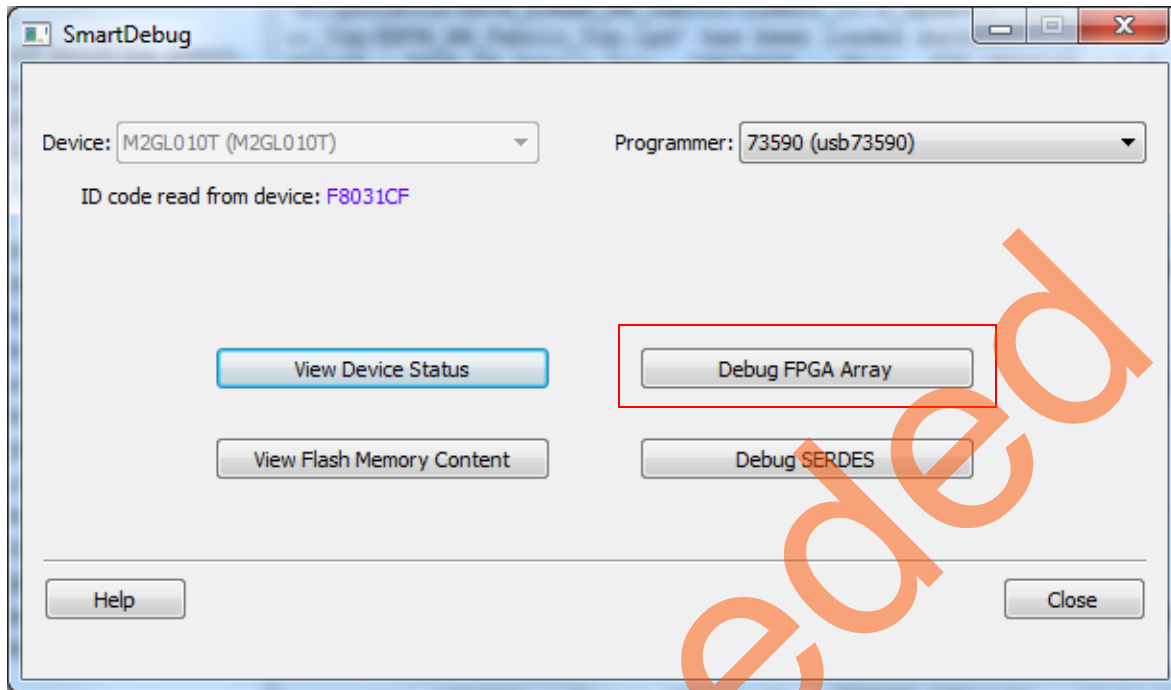
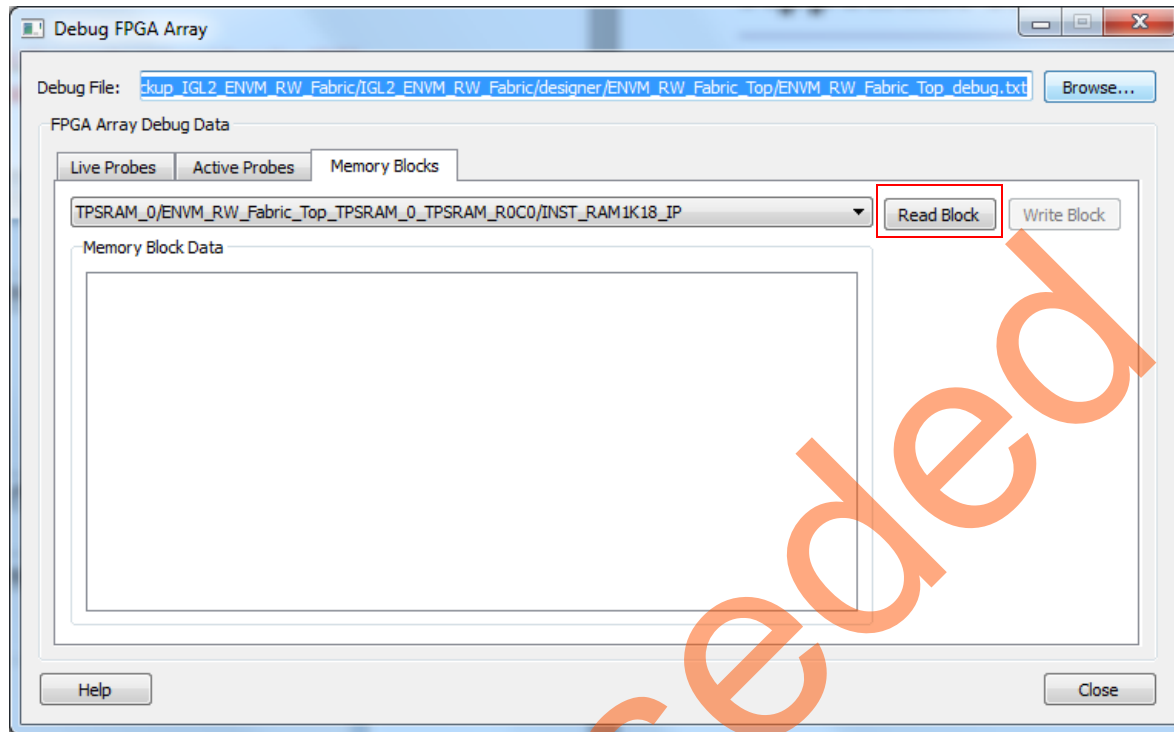

Figure 21 • SmartDebug Window
Figure 22 • Debug FPGA Array Window
- a. In Libero SoC, go to **Designflow > DebugDesign > SmartDebugDesign**. Right-click and open the **SmartDebug** window (see Figure 21).
Figure 21 shows the **SmartDebug** window.
- b. Click **Debug FPGA Array** (highlighted in Figure 21) and open the **Debug FPGA Array** window (see Figure 22).
- c. Browse for **eNVM_eSRAM_RW_Top_debug.txt** file and click **Read Block** (highlighted in Figure 22) in **Memory Blocks** tab.
Figure 22 shows the **Debug FPGA Array** window.